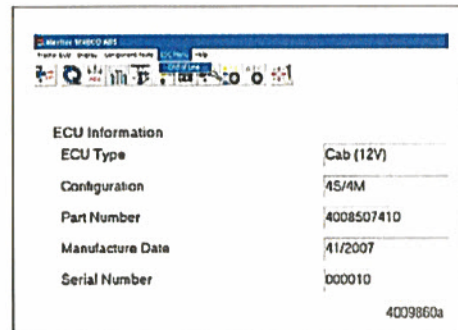

Figure 7
2. On the main screen, select "ESC Menu" and select "End of Line". Figure 7.